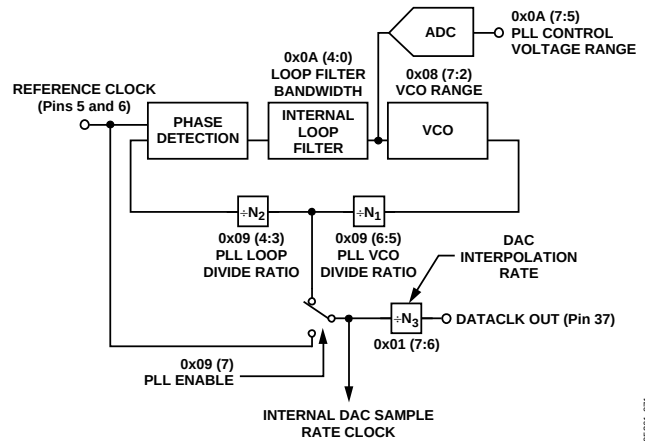

Figure 71. Internal Clock Architecture
The internal clock architecture is shown in Figure 71. The reference clock is the differential clock at Pins 5 and 6. This clock input can be run differentially or singled-ended by driving Pin 5 with a clock signal and biasing Pin 6 to the midswing point of the signal at Pin 5. The clock architecture can be run in the following configurations:
1. PLL Enabled (Reg. 0x09, Bit 7 = 1). The PLL enable switch shown in Figure 71 is connected to the junction of the N1 dividers (PLL VCO divide ratio) and N2 dividers (PLL loop divide ratio). Divider N3 determines the interpolation rate of the DAC, and the ratio N3/N2 determines the ratio of reference clock/input data rate. The VCO runs optimally over the range of 1.0 GHz to 2.0 GHz, so that N1 keeps the speed of the VCO within this range, although the DAC sample rate can be lower. The loop filter components are entirely internal and no external compensation is necessary.
2. PLL Disabled (Reg. 0x09, Bit 7 = 0). The PLL enable switch shown in Figure 71 is connected to the reference clock input. The differential reference clock input is the same as the DAC output sample rate. N3 determines the interpolation rate.